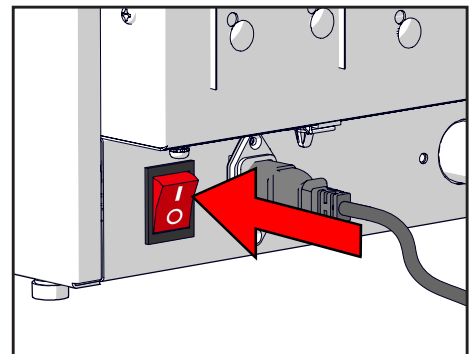

Figure 10.
13. Switch on the machine using the switch at the rear of the machine (see Figure 10).
1. Switch the machine on with the ON/OFF switch on the rear of the machine. The machine starts and heats up (see Figure 10).